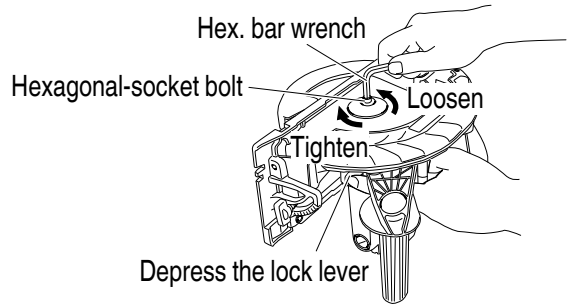

Fig. 8
- (1) Set the cutting volume at maximum, and place the Circular Saw as shown in **Fig. 8**.
- (2) Depress the lock lever, lock the spindle, and remove the hexagonal-socket bolt with the hex. bar wrench.
- (3) While holding the lower guard lever to keep the lower guard fully retracted into the saw cover, remove the saw blade.